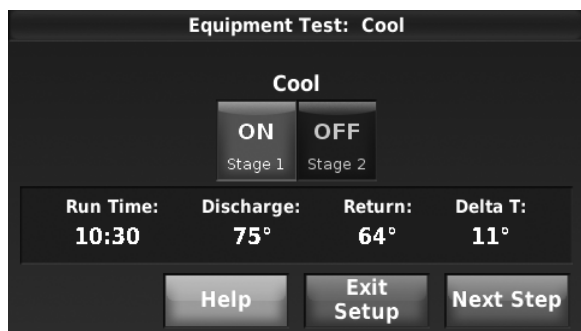

Fig. 62.
- For each stage you test, wait until Delta T begins to stabilize, then turn on the next stage (if present). See Fig. 62 for an example.
- When setting the run time, select a setting based on when Delta T began to stabilize during the equipment test. In the example shown in Fig. 62 and 64, Delta T began to stabilize around 10-11 minutes.